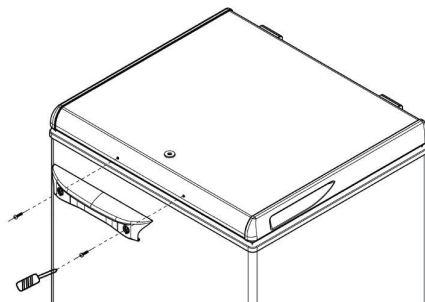

Fig. 2
Step 2: Align the handle mounting hole with the screw holes in the front of the door, use the tool to fix the handle to the door with the screw and in place (see Fig. 2).